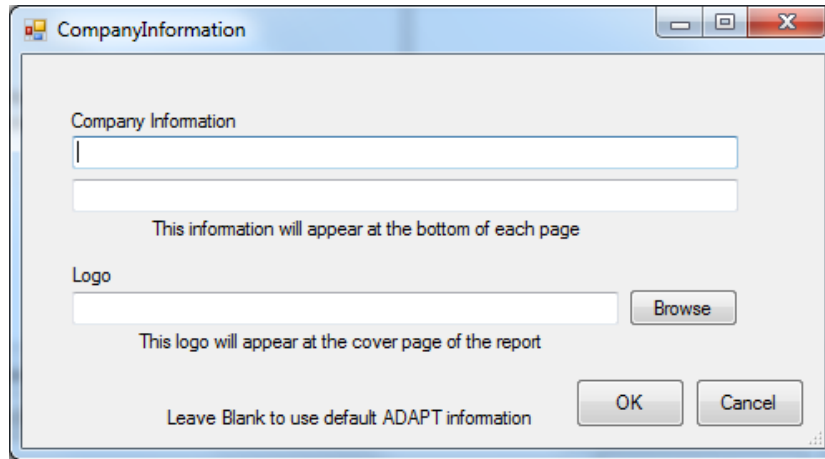

FIGURE 1.3-2
- Report cover: Select this option to generate a report cover with your logo and company information. To update your company information, click on **Update Company Info** on the *Report Generator* and you will see the screen **Company Information** shown in **Figure 1.3-2**.